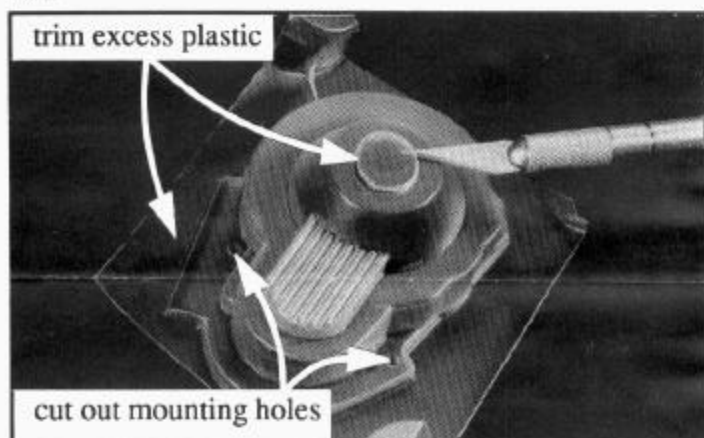

fig. 1
STEP 1 With an X-acto knife, cut out the round portion as shown in figure 1 so the cap will seat flush with the surface after you insert it. Cut along the edges carefully in order to form a tight seal for your cap.